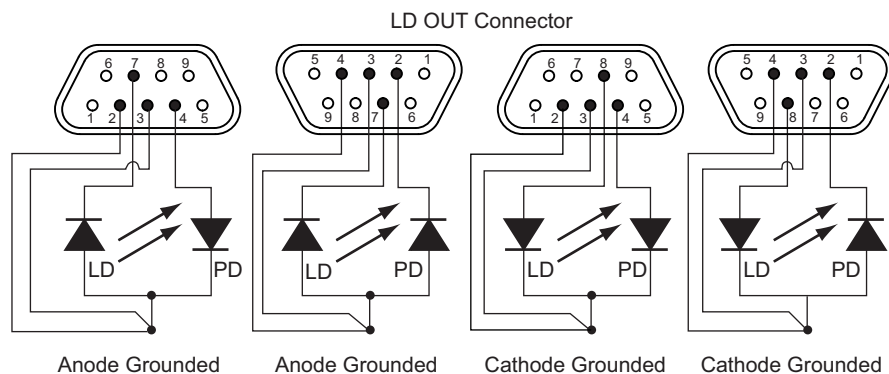

Fig. 3.4 Laser diode connections
For the lowest noise and highest level of protection, the case of the laser diode package should always be connected to the electrical system ground. Since normally the case will also be electrically connected to either the anode or the cathode of the laser diode, this results in two common configurations: anode grounded (AG) and cathode grounded (CG). This can be established from the laser diode data sheet and the device should be connected to the D-type connector on the KLD101 accordingly. Additionally, in most cases either the anode or the cathode of the internal photodiode (if there is one) is also connected to the case, resulting in four possible configurations, as shown in Fig. 3.4.